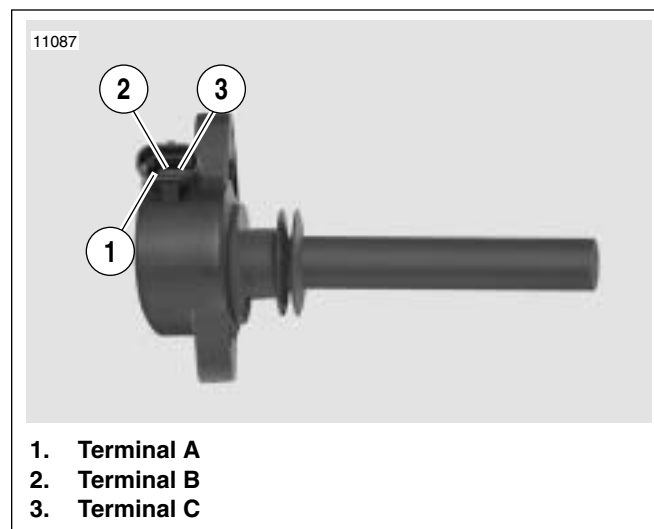

Figure 4-55. Plug Top Coil
3. See Figure 4-55. Perform plug top coil resistance test.